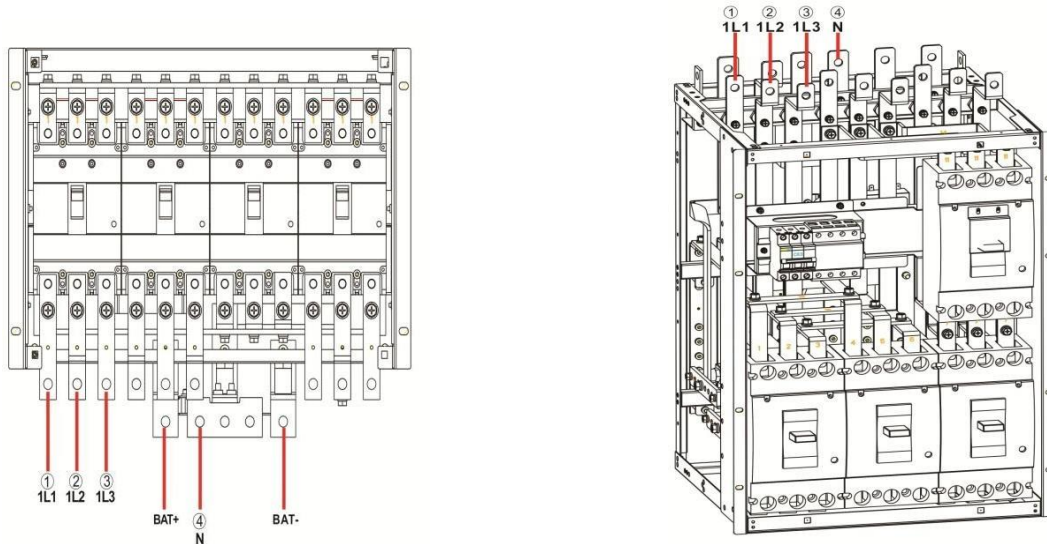

Fig.3-14 Connect the AC input cable (100kVA) Fig.3-15 Connect the AC input cable (200kVA)
Step 2 : Connect the AC input cables to the main input power distribution terminals 1L1, 1L2, 1L3, and N in sequence, as shown in Figure 3-14 and Figure 3-15. Before powering on, please use a multimeter to confirm that there is no short circuit between each phase of the terminals.